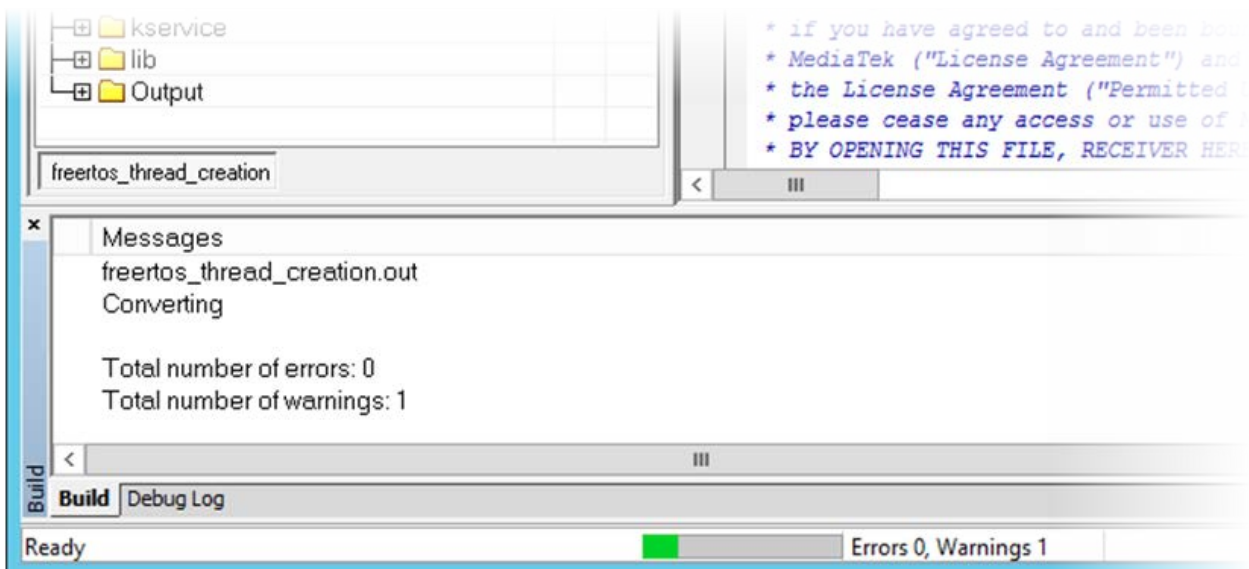

Figure 62. Project build result on IAR Embedded Workbench IDE
- 4) When the build operation is complete, the **Build output** window is updated with the result, as shown in Figure 62.